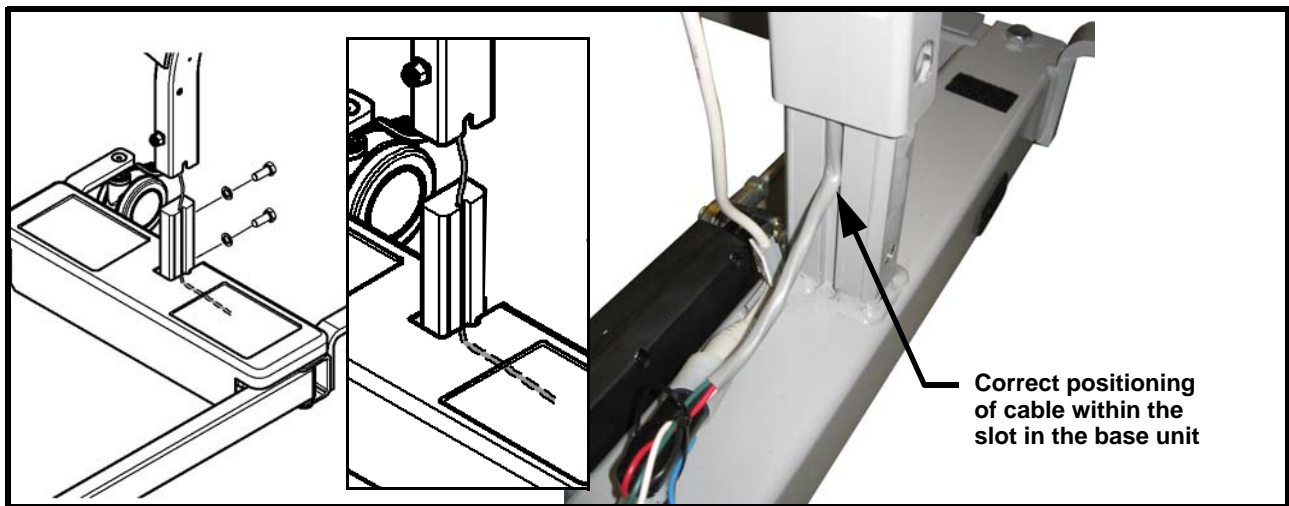

Fig. 21
- 10) Slide the new mast over the post and secure with two bolts and two lock washers. Tighten securely according to torque value and threadlocker information provided in Fig. 2. Make sure the wire is in the slot of the base unit. Caution: Do not squeeze the cable (see Fig. 21). Once the mast is installed on the base, leave about 23 cm (9 in) of cable.